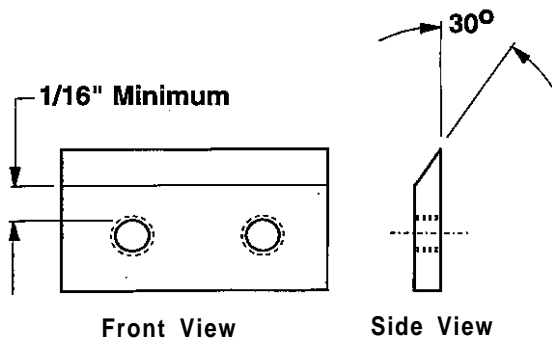

Figure 39. Chipper Knife Minimum Distance - Mounting Holes To Bevel Edge
- Chipping knives may be resharpened until the distance between the mounting holes and the top edge of the blade bevel is $\frac{1}{16}$ " apart (Figure 39).
- Chipper knives require a 30° bevel on the cutting edge (as shown in figure 39) for efficient chipping action.